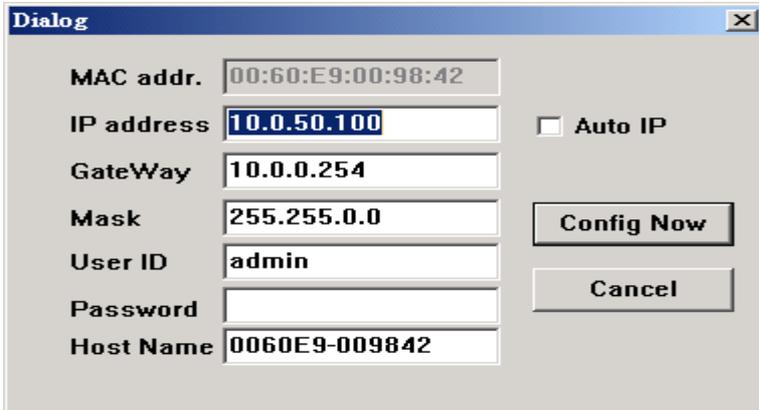

Figure D2. Configuration dialog box
2. Select the device you want to configure from the **IP Address** column, click on the **Config** button, a configuration window will popup as shown in Figure D2: